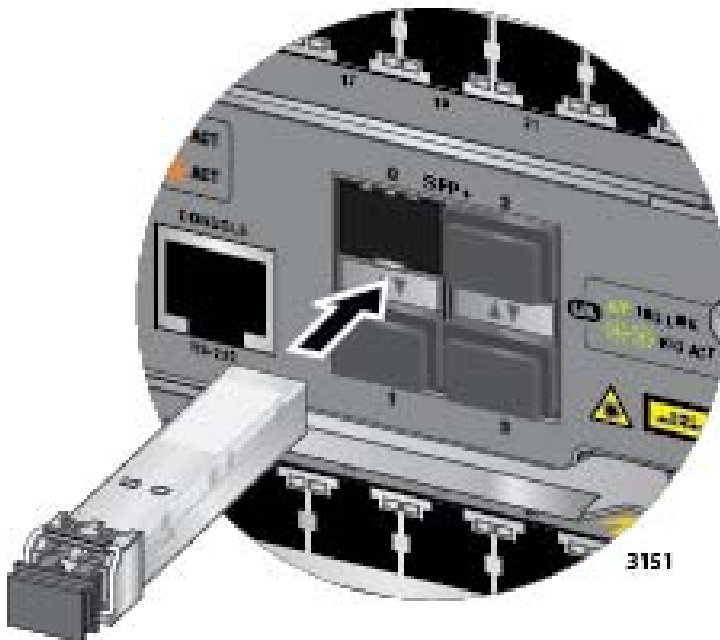

Figure 114. Installing an SFP or SFP+ Transceiver in the AT-SBx31CFC960 Controller Fabric Card
3. Slide the transceiver into the transceiver slot until it clicks into place, as shown in Figure 114.